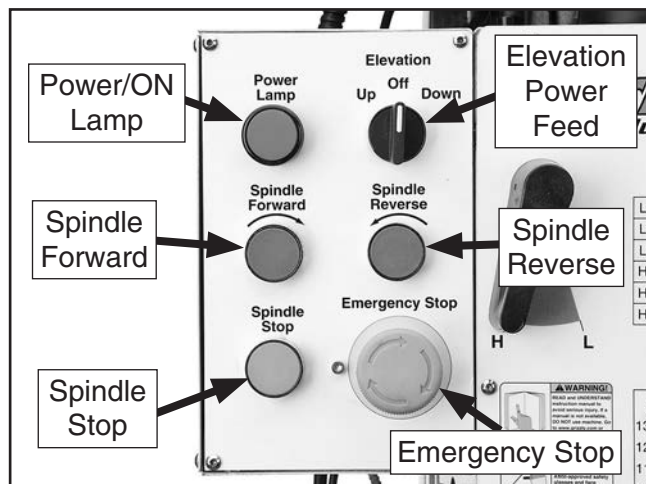

Figure 9. Control panel.
1. Push Emergency Stop button (see **Figure 9**).